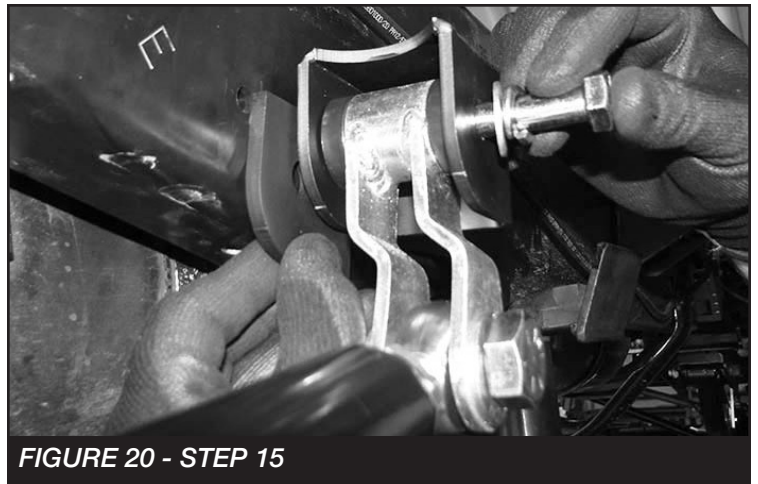

FIGURE 20 - STEP 15
15. Install the bracket using the (2) supplied 3/8" self-tapping bolts. Torque to 37 ft-lbs. Locate the Fabtech shackle bracket (FT90018) and install two FT1004 bushings and one FT66 sleeve into the end of the shackle with the barrel. Next, install the FT90018 (Shackle) to the Fabtech traction bar using the supplied 3/4"-10 X 3" hardware. **NOTE: The shackle should be installed so the traction bar will offset away from the frame.** Install the assembly into the Fabtech frame bracket using the 1/2"-13 X 4" bolt, lock washer flat washers, nut and FT30634 (spacer plate). The spacer plate needs to be installed between the Fabtech bracket and the factory frame. Torque to 127 ft-lbs. **SEE FIGURE 20**